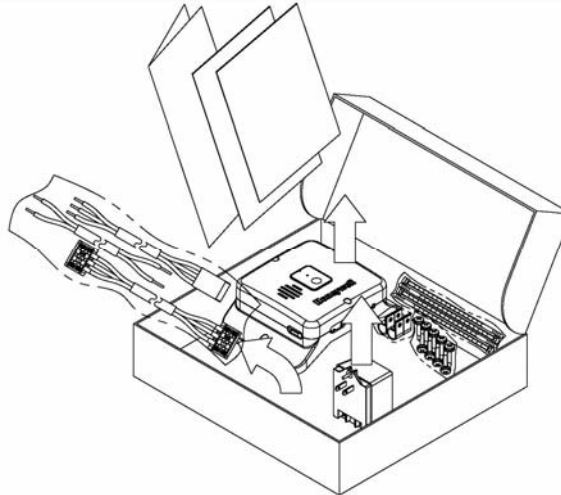

Figure 1
Step 1: Remove the Accessory Module and its components from their packaging, as shown in Figure 1.